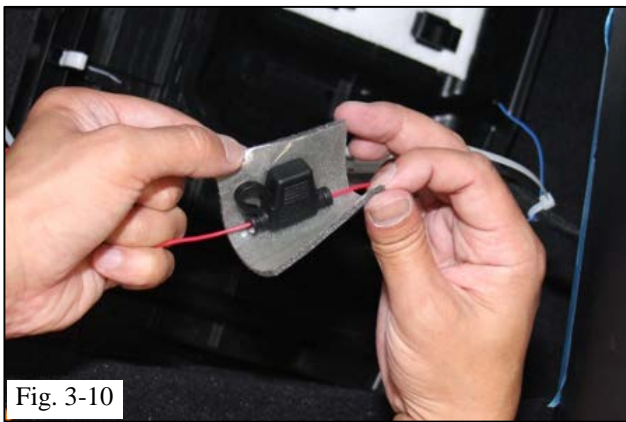

Fig. 3-10
- (m) Apply foam tape over the fuse holder (Fig. 3-10).